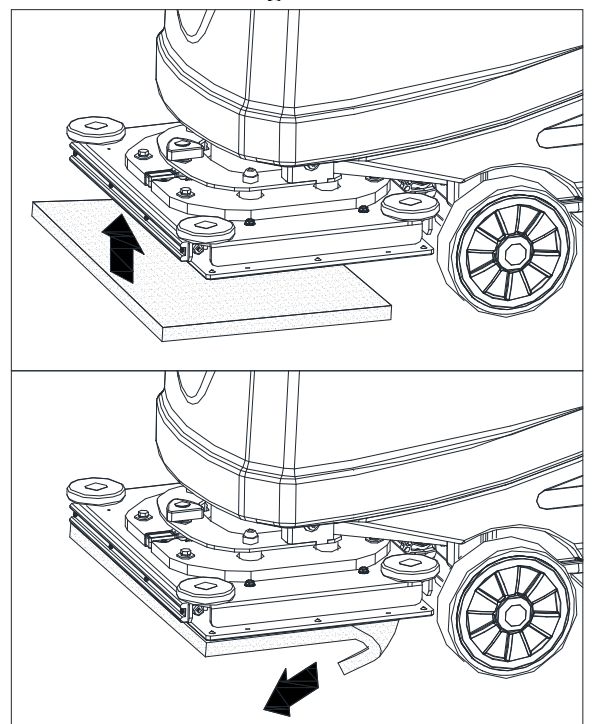

Figure 5.1
1. Lift the deck by pressing the switch (46).
2. Install and uninstall the pad (A, Figure 5.1)